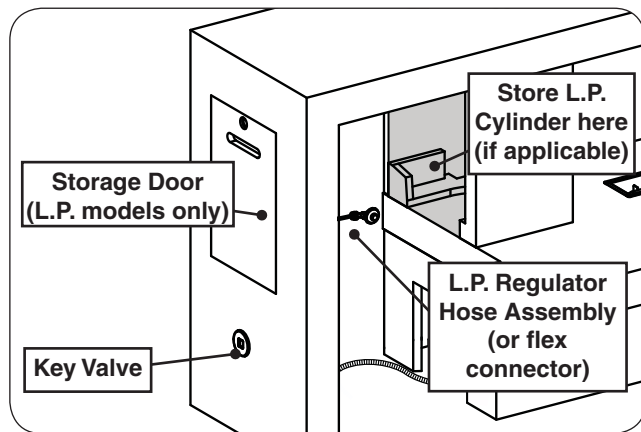

Fig. 17-1 Gas connections detail
The fireplace has a key valve pre-installed on the left side of the housing piece. An L.P. regulator hose assembly OR a flex connector is pre-installed to the key valve on the interior of the housing piece. See Fig. 17-1.
**Note:** L.P. fireplace models are equipped with a storage door on the left side of the unit (see Fig. 17-1).